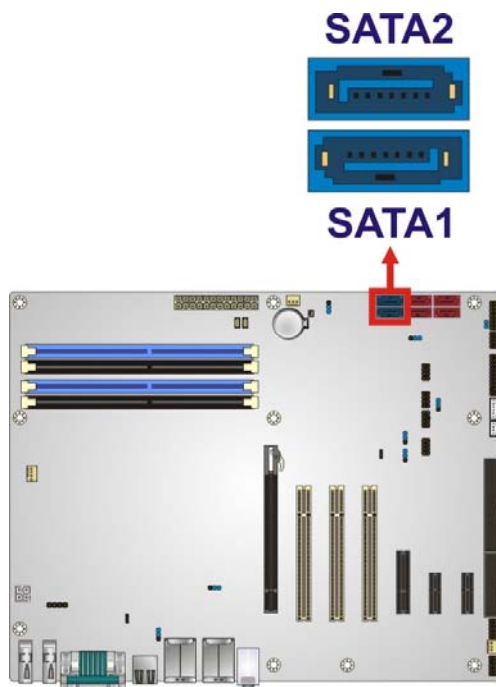

Figure 3-19: SATA 6Gb/s Drive Connector Locations
- CN Location:** See Figure 3-19